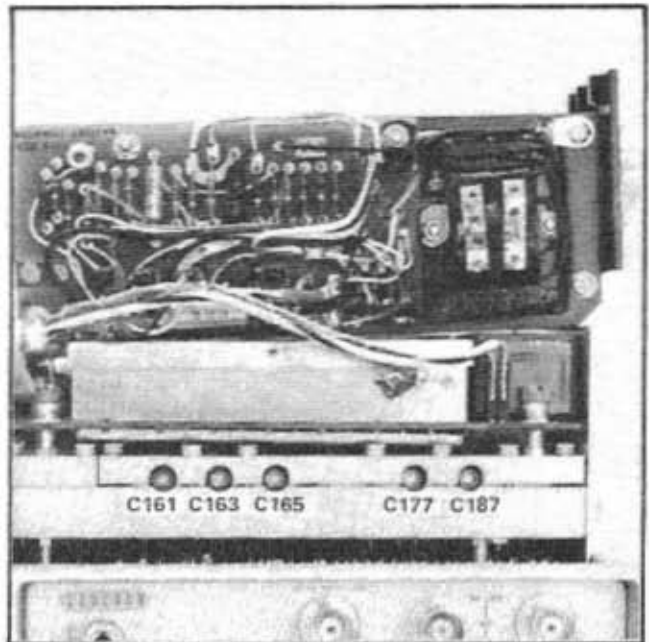
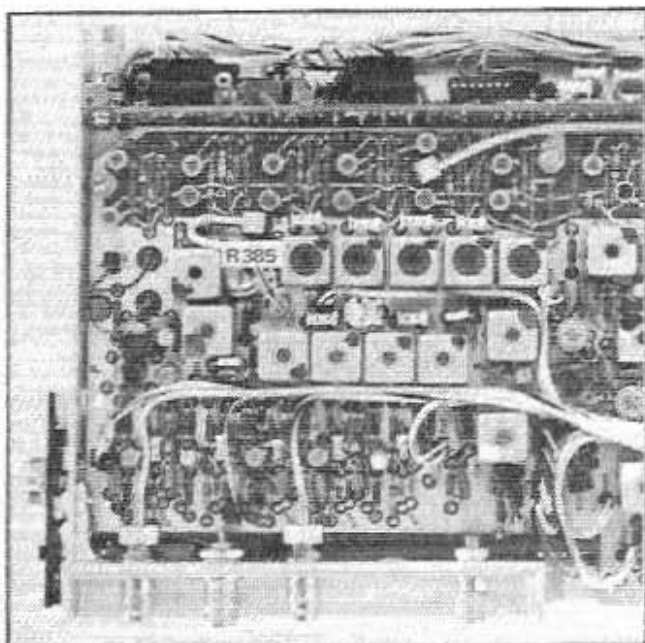
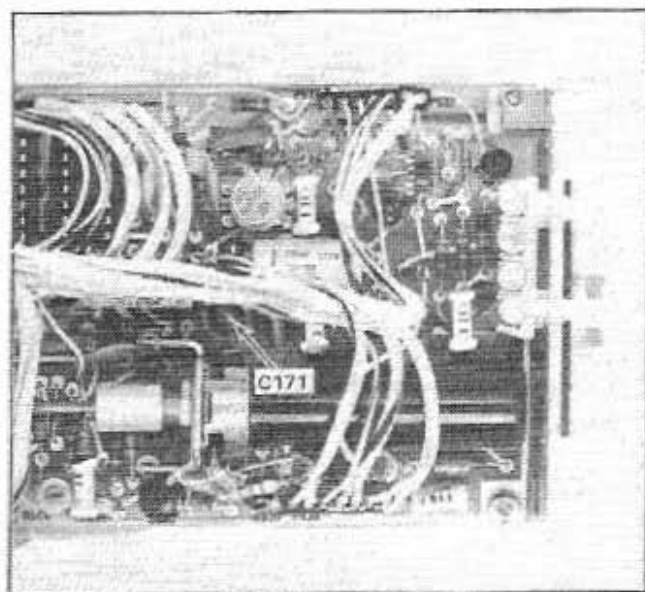

Fig. 6-6. 695 MHz Filter, 720 MHz oscillator, and 2nd converter adjustments (Power pack removed).
Fig. 6-7. Mixer bias adjustment R385.
Fig. 6-8. Location of C171 for idler tank circuit adjustment.
The battery pack must be removed and placed on top of the power regulator (see Fig. 6-6) to gain access to the RF alignment adjustments, or an external DC power source must be used to replace the battery pack.
n. Adjust the 720 MHz oscillator with C187 (Fig. 6-6), until the signal generator frequency for maximum response is 695 MHz.
o. Keeping the input signal level as low as practical, adjust the 695 MHz filter, with C161, C163, and C165 (Fig. 6-6) plus the converter adjustments R385 (Fig. 6-7), C177 (Fig. 6-6), and C171 (Fig. 6-8) for optimum sensitivity.
1) Adjust the 695 MHz Filter, with C161, C163, C165 (Fig. 6-6) for maximum sensitivity.
3) Adjust mixer bias with R385 (Fig. 6-8) and mixer coupling with C177 for maximum sensitivity. Note how much the adjustment pulls the 720 MHz converter oscillator.